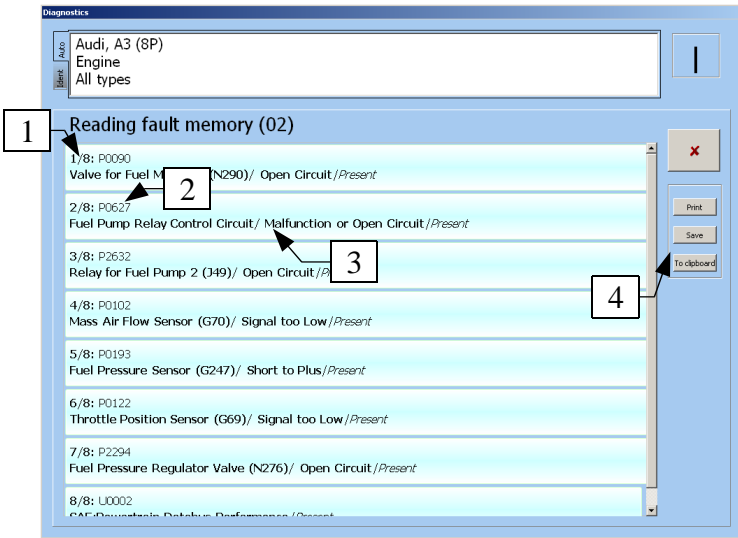

Figure 6.7
After confirming this option the device loads list of faults saved in the control unit's memory, and displays them, if there are any (Figure 6.7). Warning - in real cases the number of faults may vary! Individual items contain a sequential number/number of faults (1), fault code (2) and the text description itself (3).